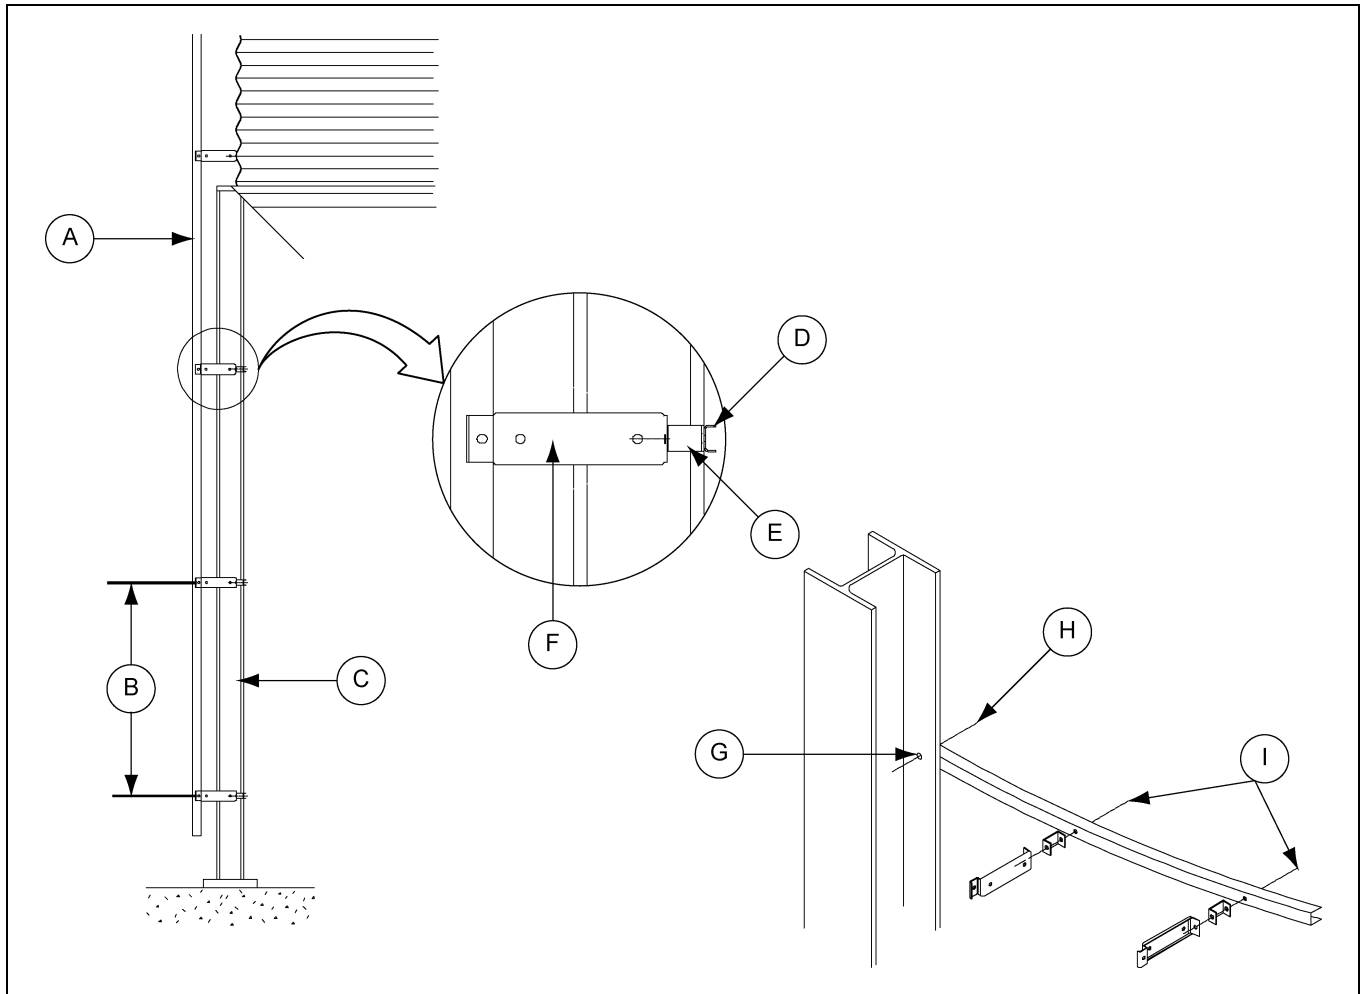

Figure 14A
The ladder (A) must be secured to the hopper support columns (C) with ladder standoff brackets (F) using support channels (D) and ladder brackets (E) as shown in *Figure 14A*.